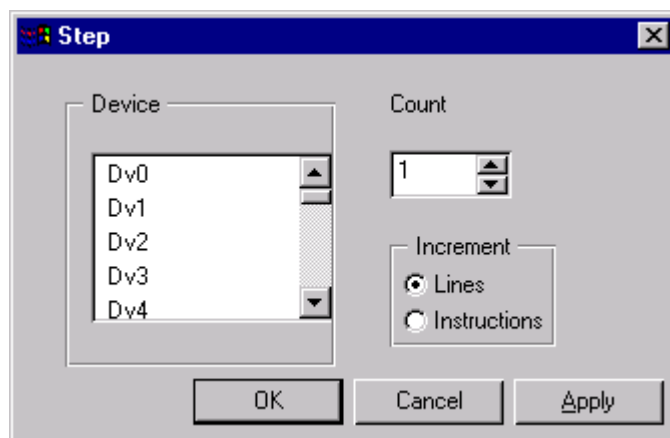

Figure 3-2. Step Through Program Instructions
1. From the **Execute** menu choose **Step**. The dialog box in Figure 3-2 appears.